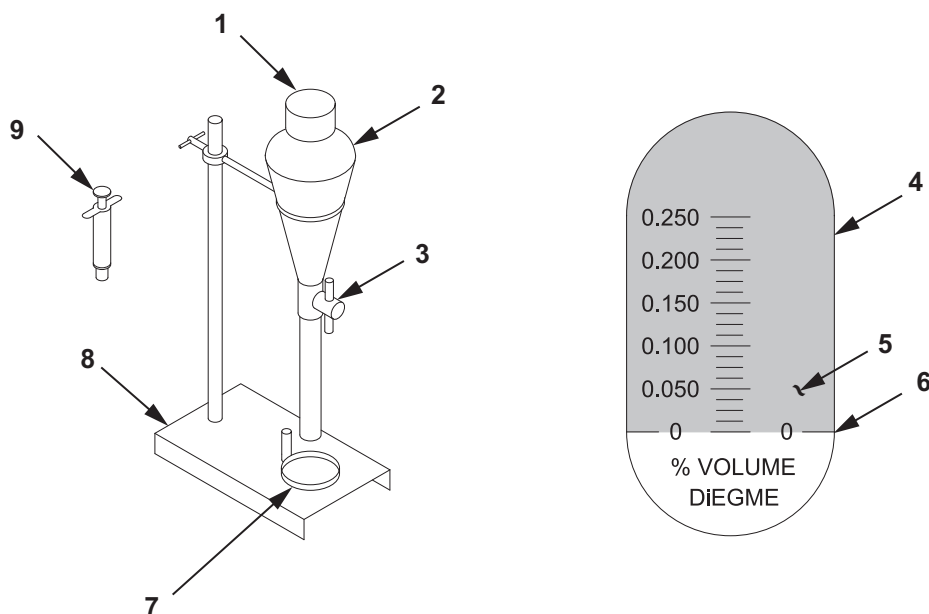

Figure 5. Test Equipment In Stand and Scale As Viewed Through Refractometer.
14. View test scale (Figure 5, Item 4) and make note of %v of additive.
15. Remove funnel bottle cap (Figure 5, Item 1) from funnel bottle (Figure 5, Item 2) and empty contents.